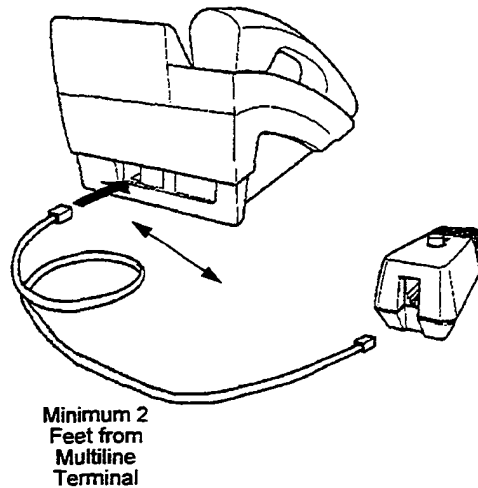

Figure 4-18 Attaching a Microphone to a Multiline Terminal
1. Plug the microphone cord into the jack on the HFU-U Unit as shown in Figure 4-18 Attaching a Microphone to a Multiline Terminal.